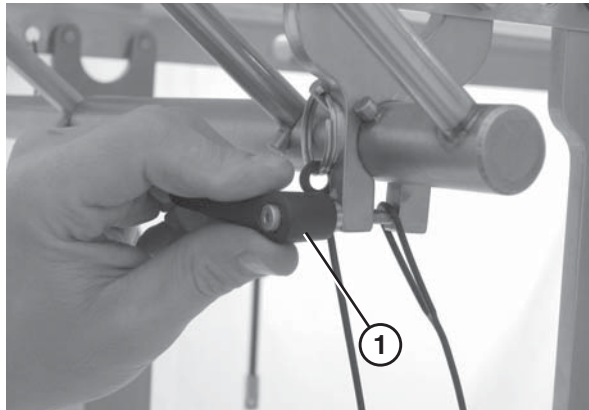

Figure 15
8. Secure the scraper by tightening the handle (Figure 15, item 1).